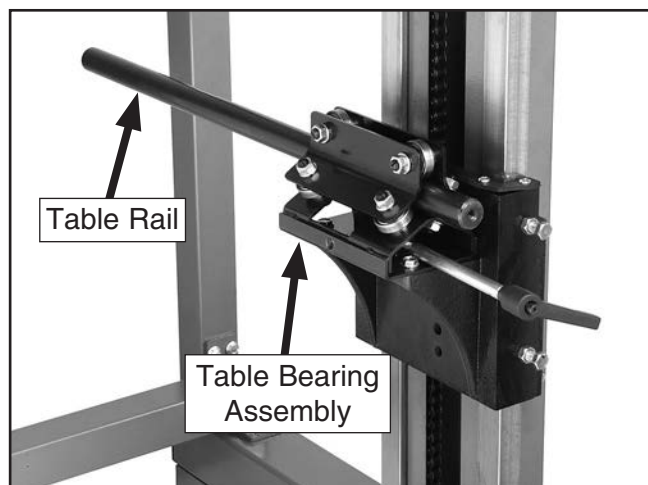

Figure 24. Table rails.
14. Slide the two table rails into the table bearing assemblies on both sides of the frame (**Figure 24**).